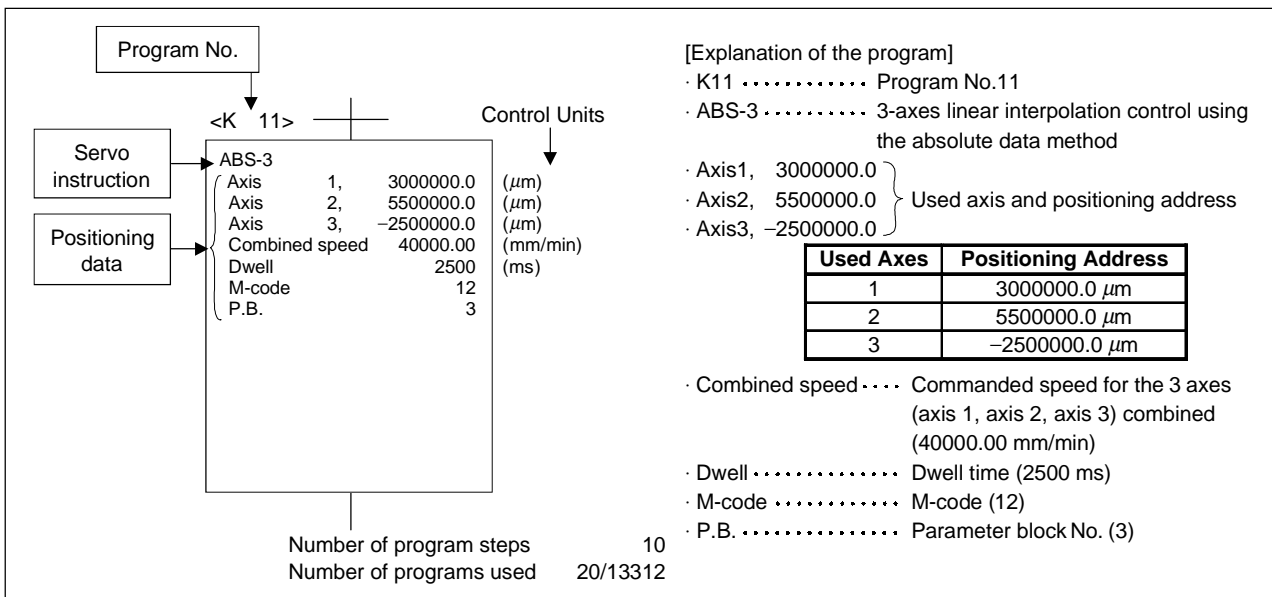

Fig. 6.1 Example Composition of a Servo Program
- (3) Positioning data..... This is the data required to execute servo instructions. The data required for execution is fixed for each servo instruction. For details, see Section 6.3. The follows applies for the servo program shown in Figure 6.1: